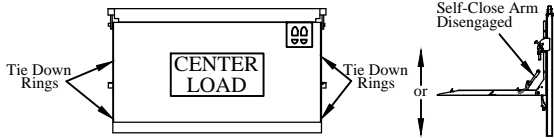

Figure 8: Step 10.
Step 10. To load and use the railgate, center the load on the platform side to side and front to back (Figure 8). Put heavier loads as close to the front of the platform as possible (near truck). Platform cart stops may be actuated at this time, if equipped. Tie down rings are provided to help secure the load.
- D. Stand in the area indicated by the footprints in the figure below (Figure 8), keeping hands and feet away from the edges and any moving parts.